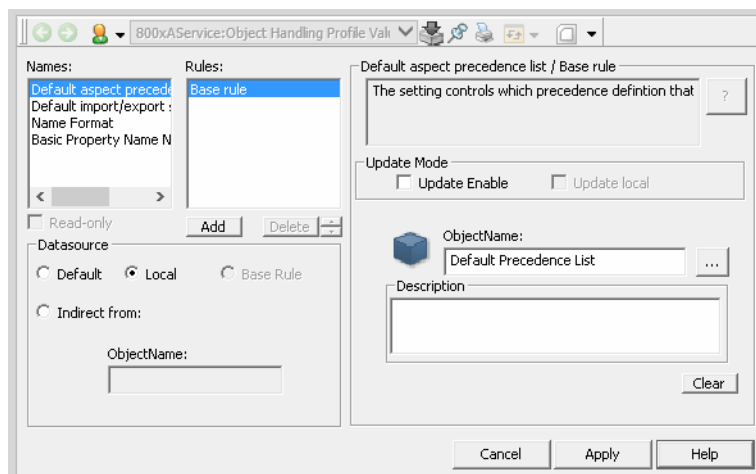

Figure 114. Object Handling Profile Values
5. Select **Local** in the **Datasource** area, and browse for your newly created precedence list by clicking the Browse button next to the **Object Name** text filed. See Figure 114.